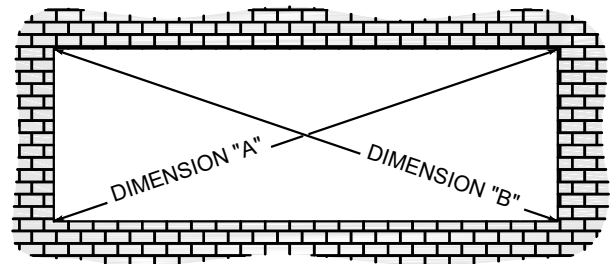

Fig. 19.1 DIMENSION "A" = "B"
- A. Make sure the opening is square and plumb. Measure each diagonal of the opening. SEE Fig. 19.1.